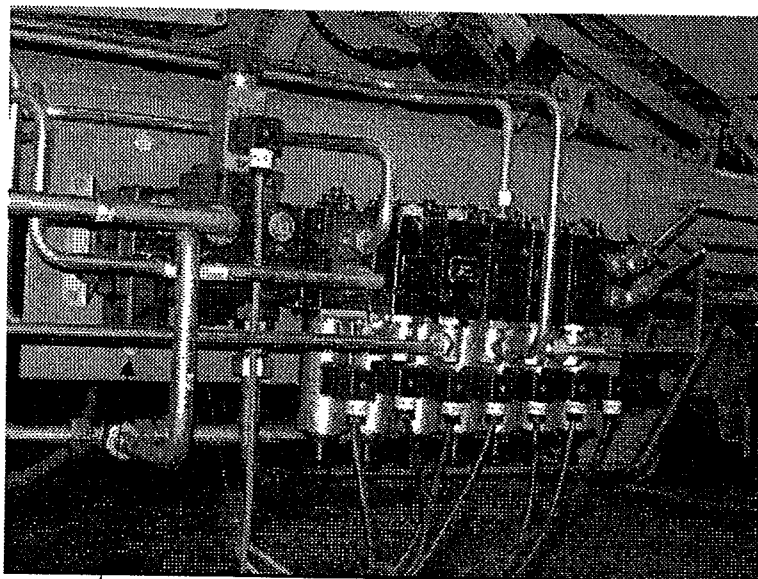
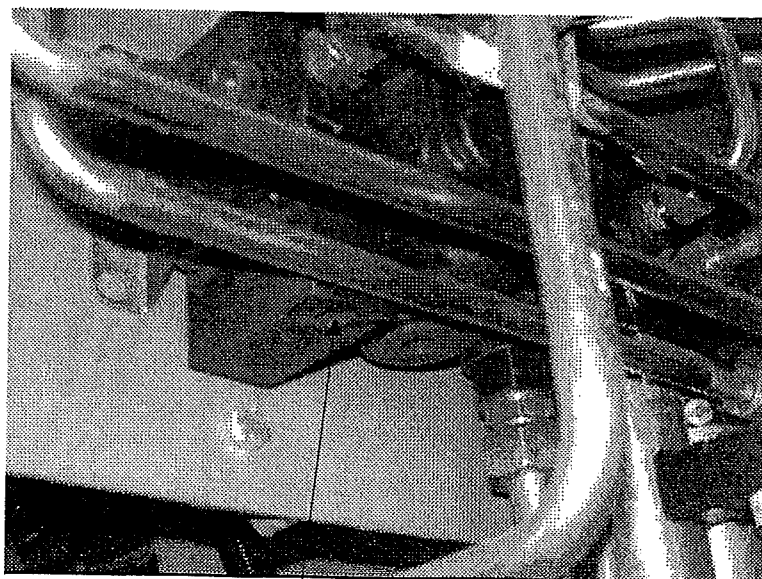

Fig 5.5
Fig 5.6
Two types of hydraulic system are currently in use by tractor manufacturers, namely OPEN CENTRE or CLOSED CENTRE configurations. Consult the tractor manufacturers handbook or your dealer for further information. The hydraulic valve on the harvester, mounted on the right hand side of the main frame half way along, (Fig 5.5) incorporates an end section (item 1) containing a screw which enables easy changing from closed to open centre and vice versa.
The screw (Fig 5.6 item 1) is located in the lower face of the rear end section (Fig 5.5 item 1) of the hydraulic valve bank. For closed centre configuration tractors, turn the screw clockwise until fully closed. For open centre, turn the screw anticlockwise until fully out.